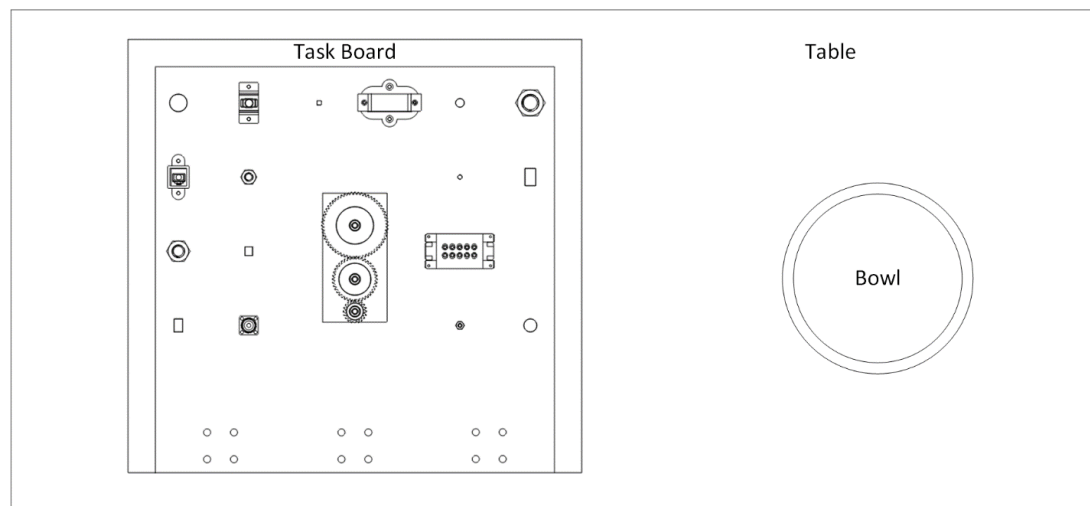

Figure 2: Layout for subtask 1
- 1) Team fixes location or judge randomizes location (for bonus points) of assembled task board on table (see Figure 2)